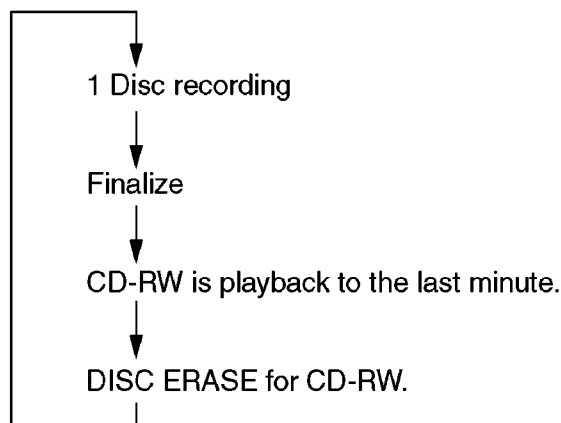

Fig. 12-2
3. The under-mentioned operation starts when “SET” key is pushed. (Refer to Fig. 12-2.)